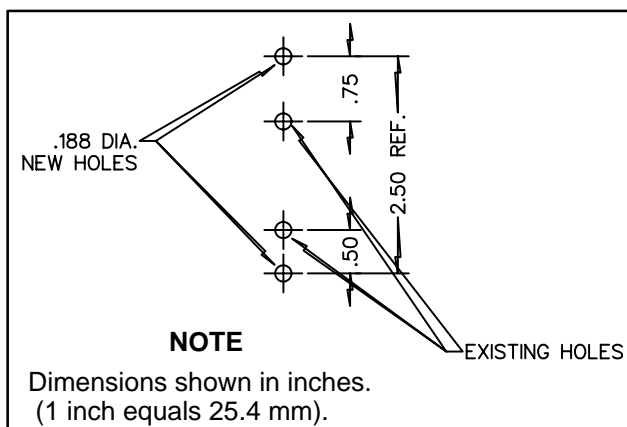

Figure 7. Relay Drilling Instructions
7. Drill two 0.187 in. (5 mm) dia. holes 2.5 in. (63.5 mm) apart to mount new relay. See Figure 7 for drilling instructions. Location should be as near as possible to old relay location.